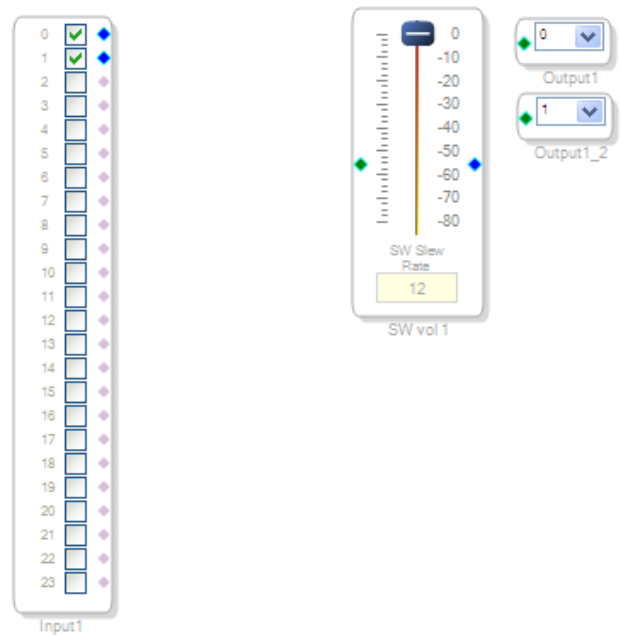

Figure 25. Stereo Input and Output with Slew Volume
8. Click and drag the **Single SW slew vol** cell into the project space, as shown in Figure 25.